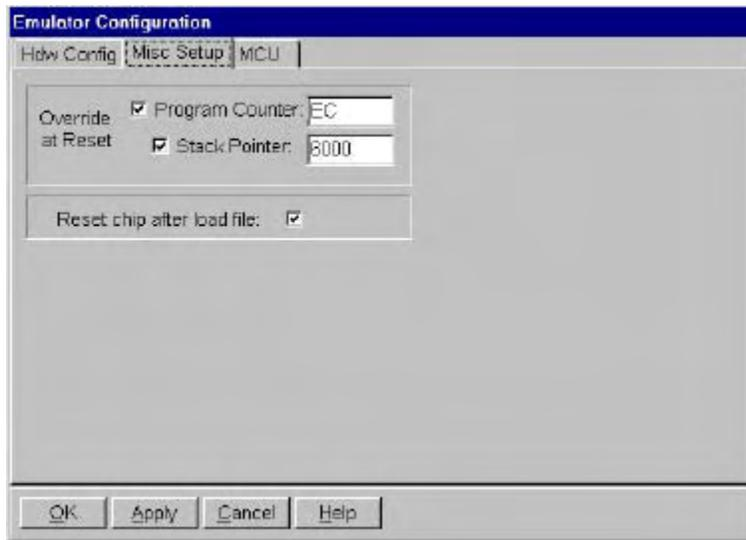

Figure 83. Miscellaneous Emulator Configuration Dialog Box
3. Click the **Misc Setup** tab at the top of the dialog box (Figure 83).